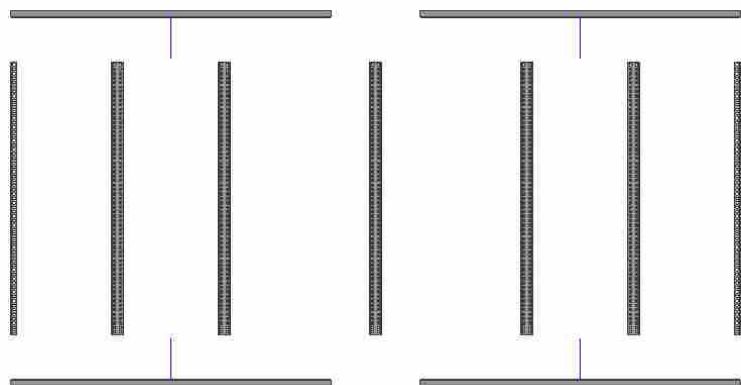

Fig 2
STEP 1 – Position all the components of the **frames** on the floor. At the point where the two **frames** meet, place a double bar to act as a joint (Fig. 2)